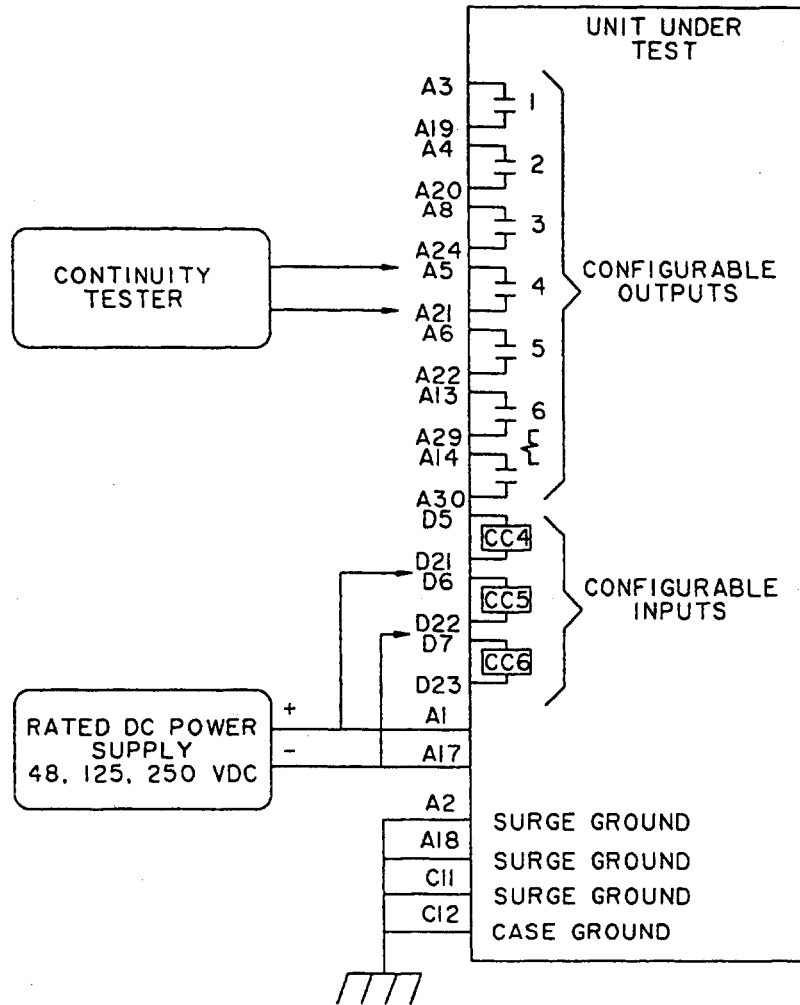

Figure 4-2. Configurable input and output test connections (drawing #0357A3044, sh. 2).
1. Connect the relay as shown in Figure 4-2.